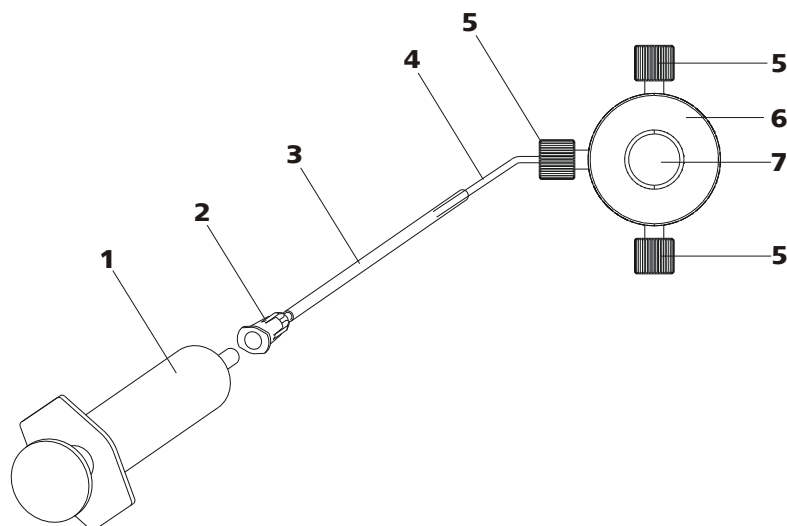

Figure 19 Deaerate the high pressure pump
Deaerate the high pressure pump as follows (see figure 19, page 38):
- Insert syringe (19-1) in the Luer connector (19-2) of the purging needle (see figure 19, page 38).